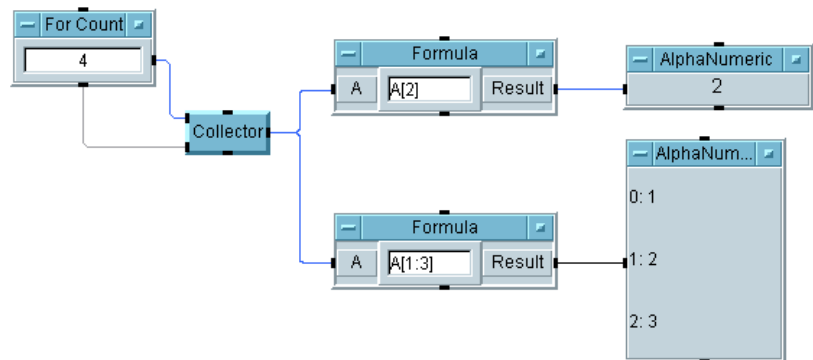

Figure 129 Extracting Array Elements with Expressions
- 6 Run the program. It should look like Figure 129.